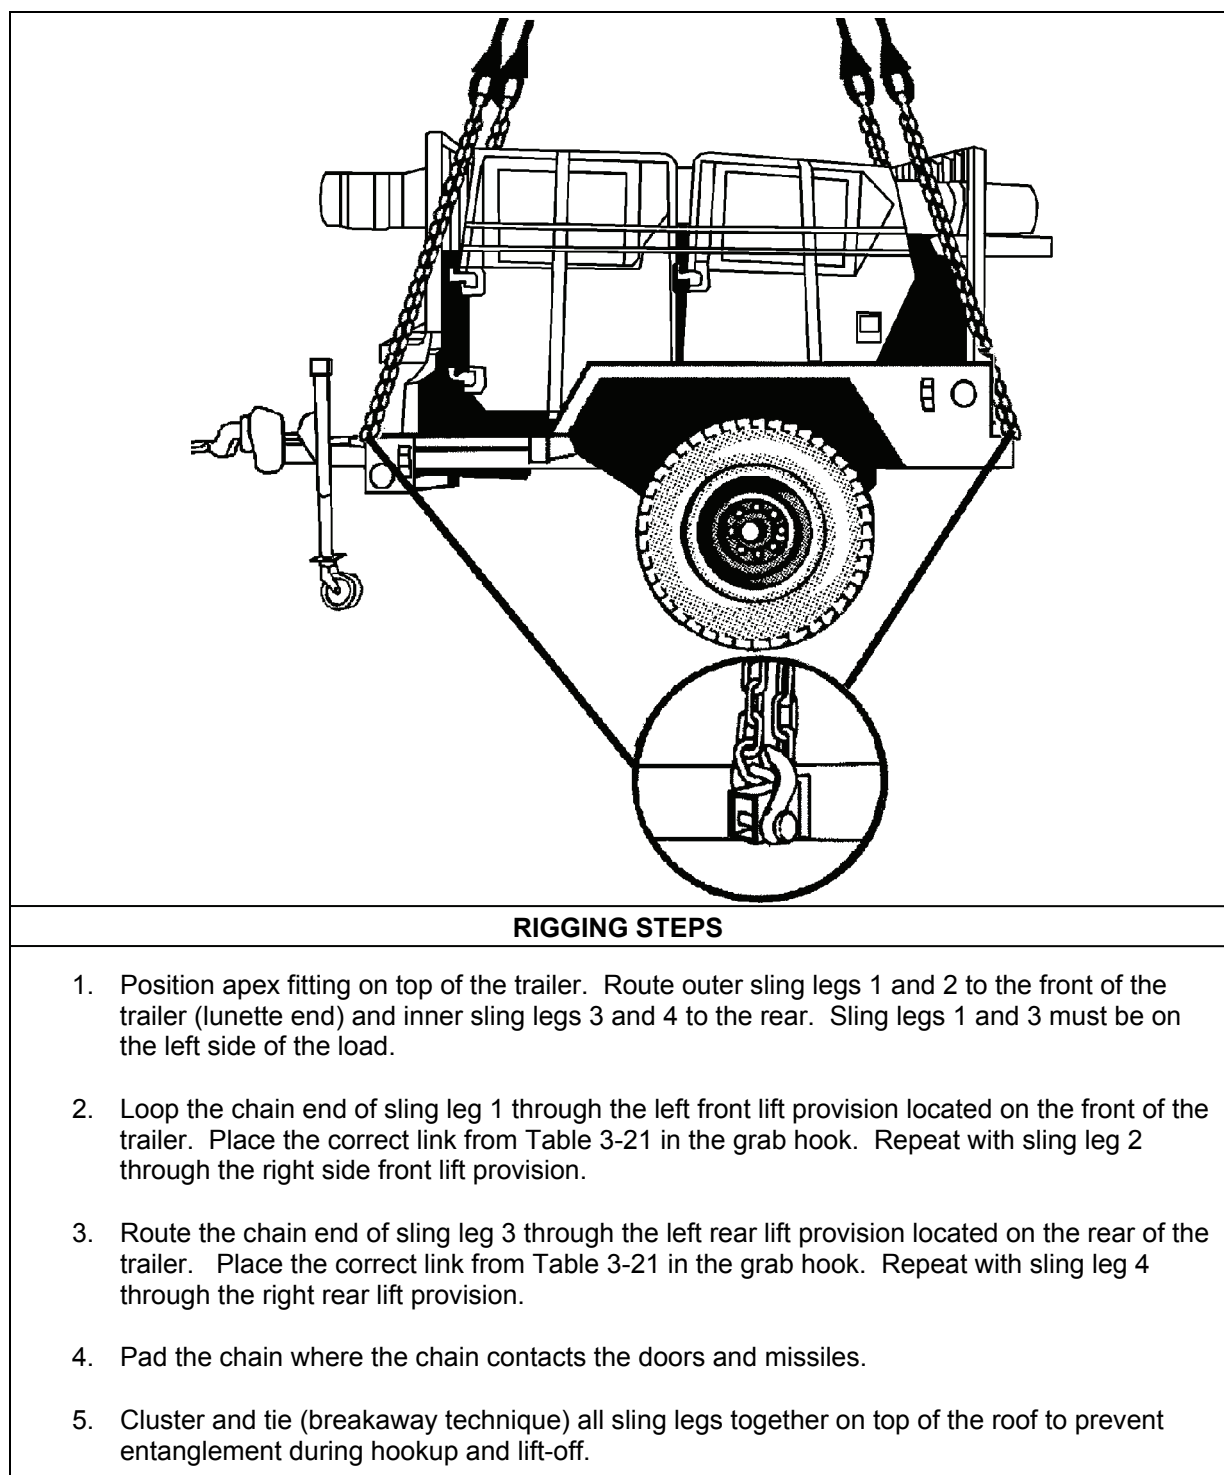

Figure 3-21. LOSAT Resupply Trailer
- **Rigging.** Rig the load according to the steps in Figure 3-21.